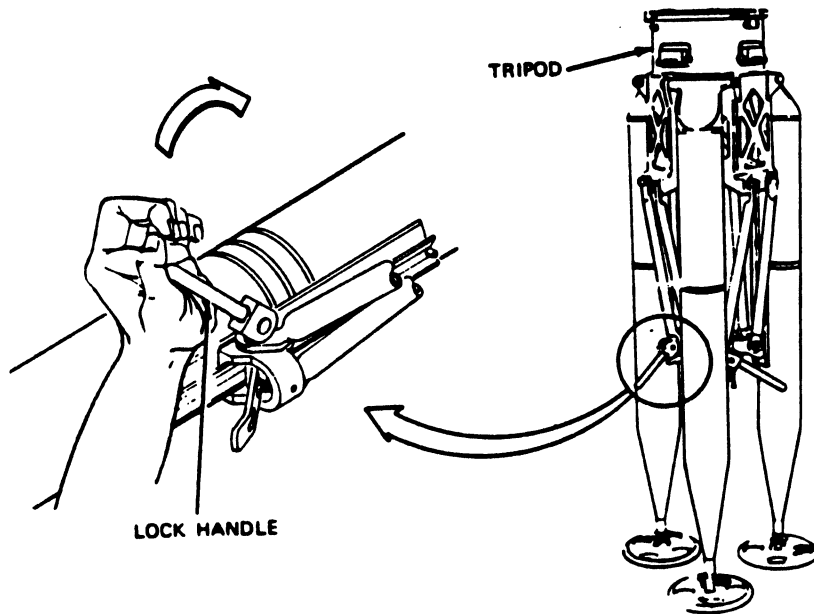

Fig 2-1. Lifting lock handles to release position.
Step 1. Lift the three lock handles up all the way to the release position (fig 2-1).